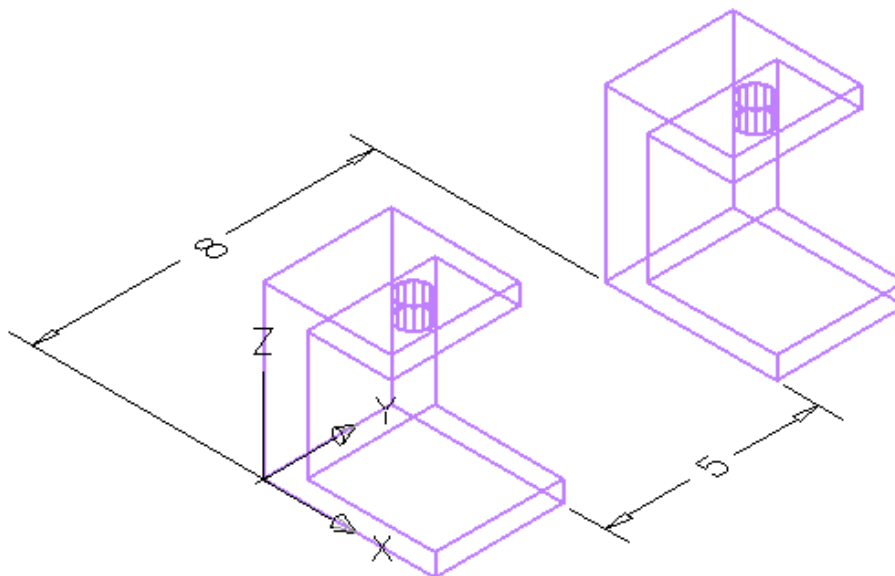

Figure Step 6
Step 6 Set the current UCS to Top. Copy the solid model, that you completed in Step 4, 8 inches in the positive Y direction. The 8 inches is measured from the same point on model to the same point on the copy. The actual distance between the two model will be 5 inches. (Figure Step 6)
Apply Steps 7 to 10 to the model on the left side of Figure Step 6.